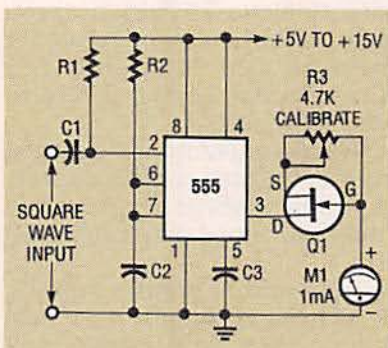

FIG. 8—ALTERNATIVE ANALOG TACHOMETER CIRCUIT to Fig. 6.
**FIG. 8—FM DEMODULATOR.** An LM311 comparator converts the small analog signal to a digital level for the CD4046 phase-locked loop, which is configured as a first-order FM demodulator.
The schematic for the FM demodulator is shown in Fig. 8. An LM311 comparator (IC1) converts the rather small analog signal to a digital level for the CD4046 phase-locked loop (IC2). Remember that the amplitude of the recovered audio has nothing to do with the amplitude of the received signal. The amplitude of the recovered audio depends only on the
The diagram of Fig. 8 shows the outline schematic for an alternative analog frequency meter that requires neither a multiplier resistor nor a regulated power supply. In this circuit, OUTPUT pin 3 of the 555 is connected to the meter through JFET transistor Q1. Configured as a constant-current generator through potentiometer R3, it sends a fixed-amplitude pulse to the meter regardless of variations in the supply voltage.